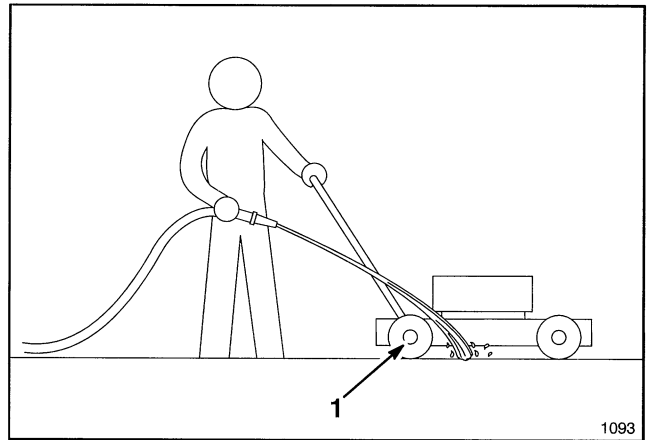

Figure 26
4. Hold the running garden hose at handle level and direct water to flow on ground just in front of right rear tire (Fig. 26). The rotating blade will draw water under the deck and wash out clippings. Let the water run for a few minutes or until you no longer see clippings being washed out from under deck.